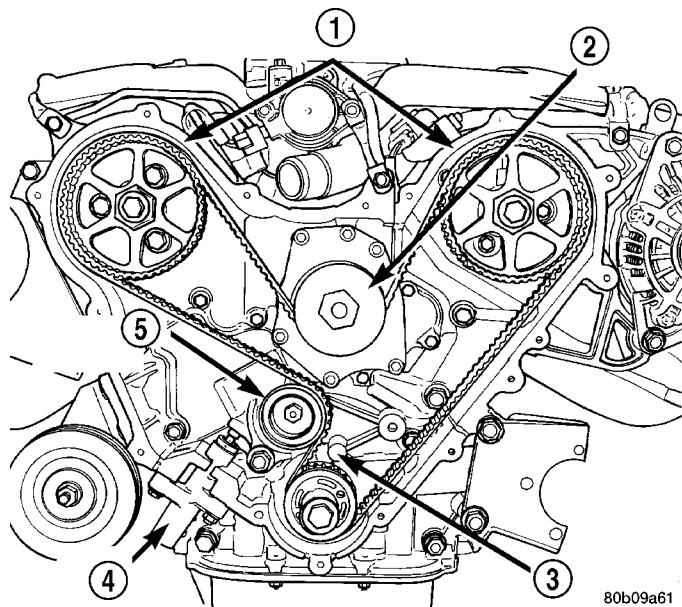

Fig. 145 TIMING BELT SYSTEM
(10) Remove the timing belt tensioner (Fig. 145) and remove timing belt.